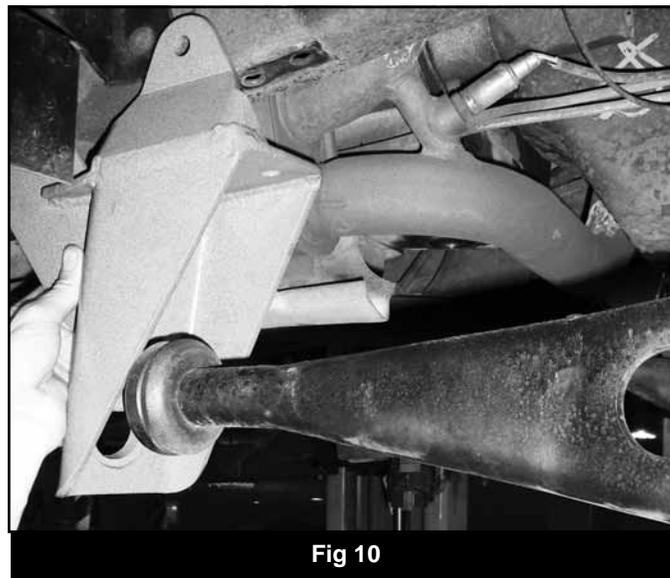

Fig 10
20. Attach radius arm drop brackets on frame rails to existing holes with 7/16" hardware. Use bracket as a guide and drill remaining mounting holes with 1/2" drill bit. Secure remaining mounting points with supplied 7/16" hardware. Tighten hardware to 50 ft-lbs. (Fig 10)